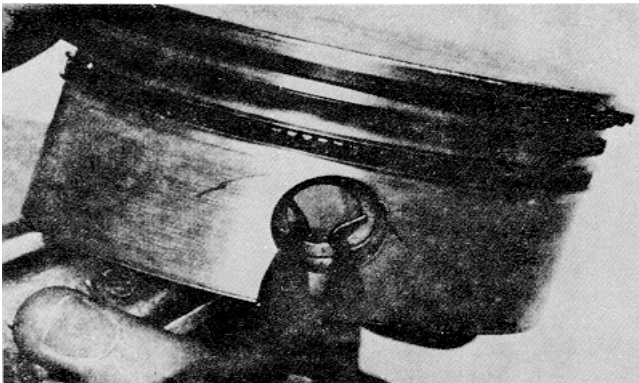

Figure 12B-21. Remove Snap Rings
B. Push the piston pin from the piston through the connecting rod. Lift the connecting rod from the piston, Figure 12B-22.